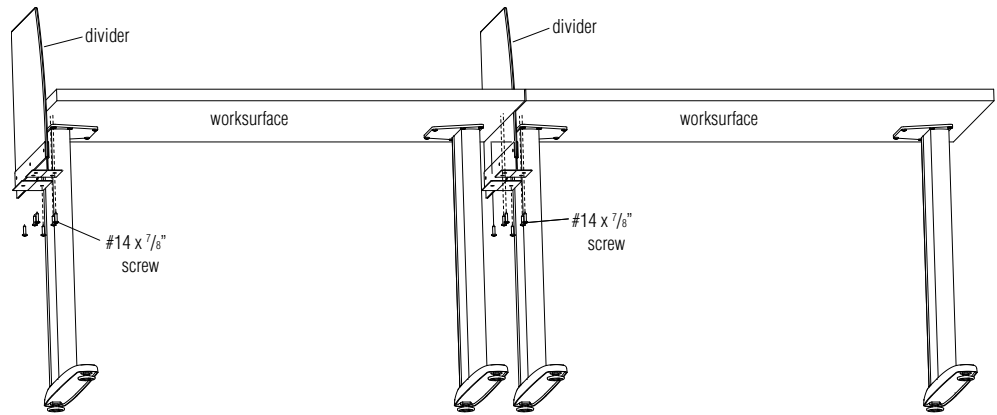
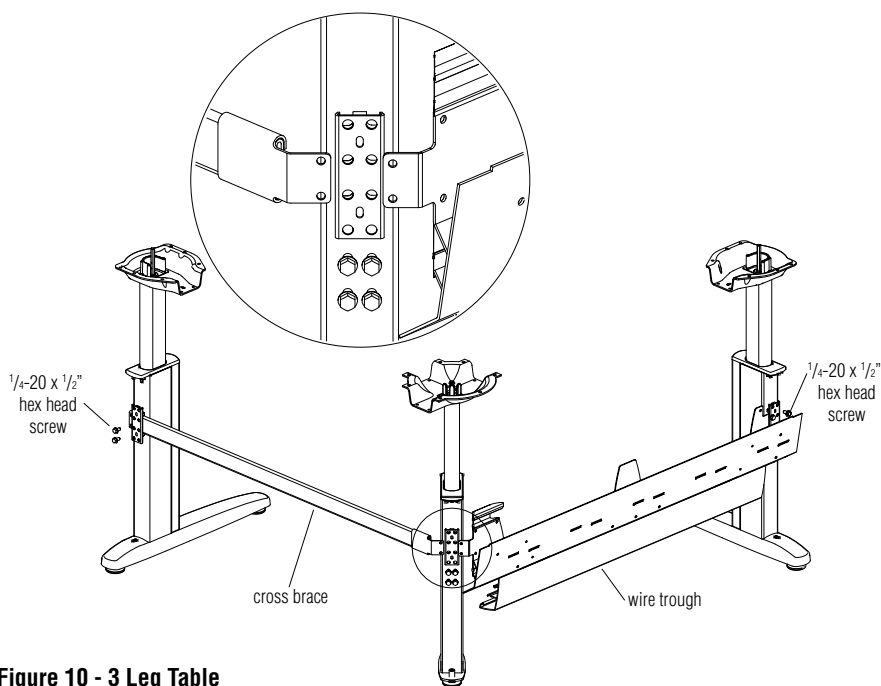

Figure 8
Figure 10 - 3 Leg Table
2. Drill  $\frac{1}{8}$ " diameter by  $\frac{1}{2}$ " deep pilot holes being careful not to drill through the worksurface. Attach the divider using three of the  $\#14 \times \frac{7}{8}$ " long screws provided (Figure 8).
3. Attach the worksurface to the base of the adjacent table. Using the divider as a template, drill holes and secure the divider to the top using remaining three  $\#14 \times \frac{7}{8}$ " long screws (Figure 8).
**For 3 leg tables**, cross brace and wire trough have a bent tab on one end for attaching to the post leg. (Figure 10). Slide the cross brace or wire trough bent tab into the opening between the back of the leg and the bracket (Figure 8 on page 4). Attach using two 1/4"-20 x 1/2" hex head screws.